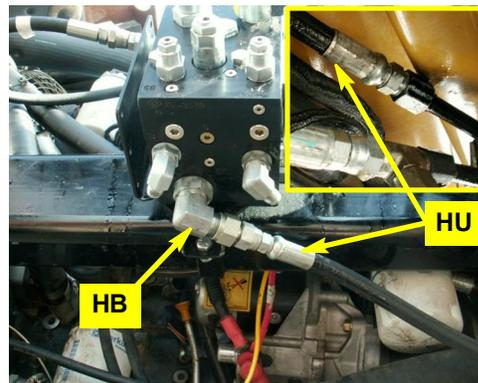

Figure 4b: Excess flow hose connected at block and (inset) to previously split pressure line
- b. Install excess flow hose **HU** between adapter **HB** in the excess flow port of the hydraulic steering block and the steel pipe in the pressure line you split at step a (Figure 4b).
NOTE: Figure 4b shows temporary connections between the excess flow hose **HU** and fitting **HB** in the EF port of the hydraulic steering block. Your hose will fit directly onto **HB**.